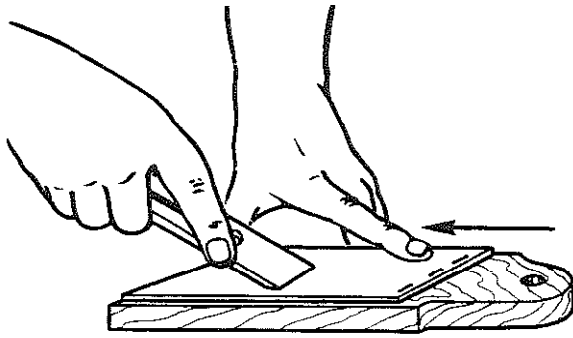

Fig. 8-62 Honing on a leather strop.
10. If a Lily stone is not available, a very good strop can be made from a piece of leather belting about three inches wide and twelve inches long. Glue and clamp it to a board of about three-quarters of an inch by three inches by twelve inches. It can then be used like a whetstone. The stroking of the plane iron over the leather surface must be away from the cutting edge rather than against it. See figure 8-62.